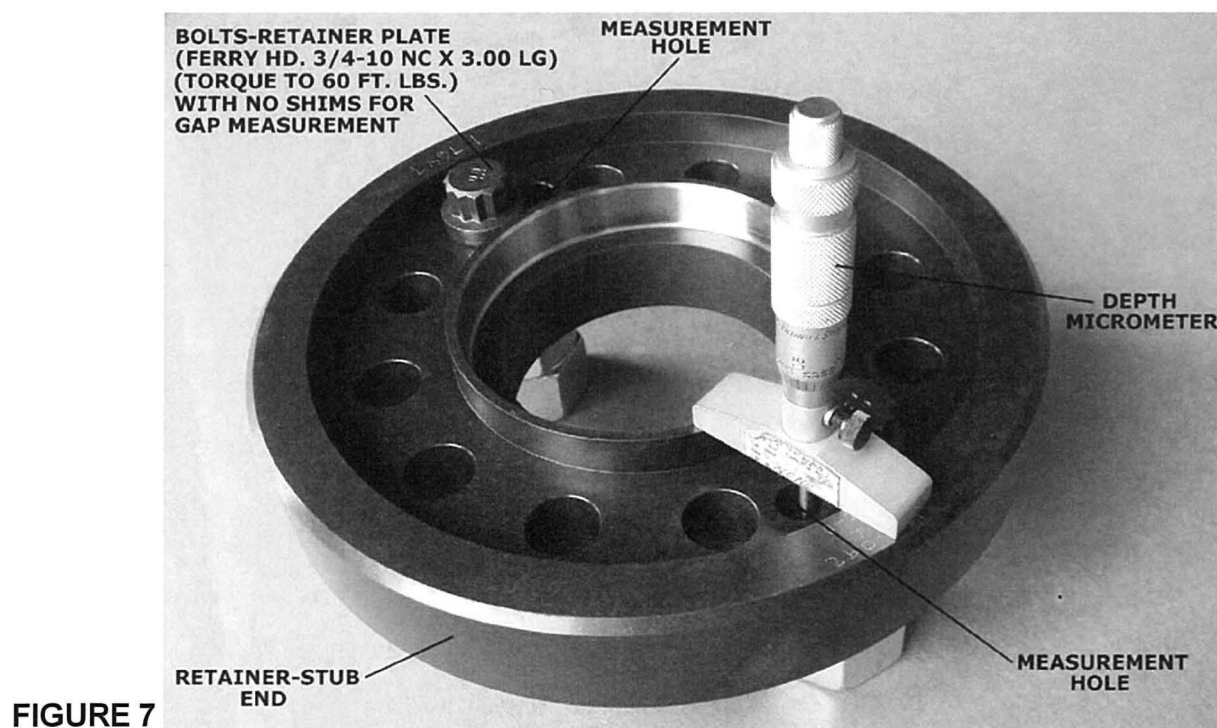
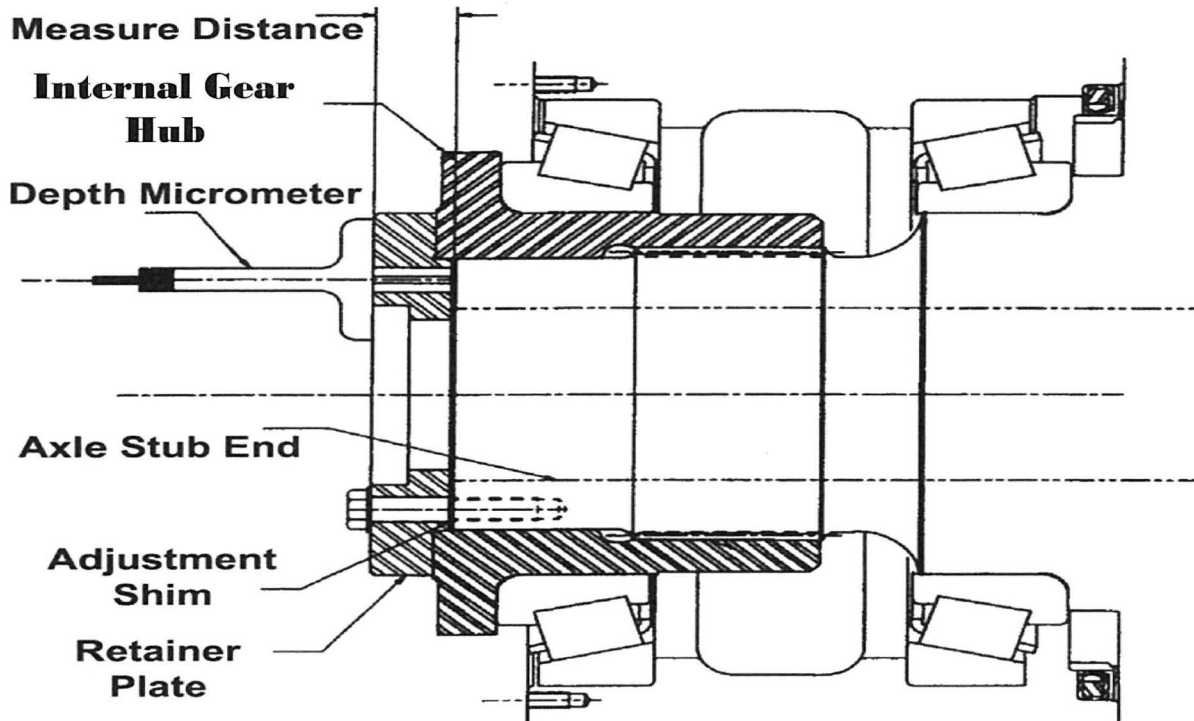

FIGURE 7
FIGURE 8
17. With wheel assembly supported underneath the outer edge, or by sling through slots in O.D. of wheel to overhead lifting device. **(Lift device must be able to lift 4,000 lbs.).** Install retainer plate without shims using two retainer plate bolts, Ferry Hd 3/4-10 NC X 3.00 LG without washers spaced 180° apart and in the holes next to the two measuring holes. See **(Figure 7)**. Do not lube the bolt threads, install the bolts clean and dry. Use brake cleaning solvent and compressed air to blow threaded holes clean and dry. Tighten the bolts until retainer plate is snug against internal gear hub and looseness is taken out of the bearings but the bolts are not tight.
22. Using a depth micrometer, measure the total distance from the outer surface of the bearing retainer plate to the stub end, through each of the two retainer plate measuring holes and average the two measurements and record. See **(Figure 7, PAGE 15 and Figure 8, PAGE 16)**.